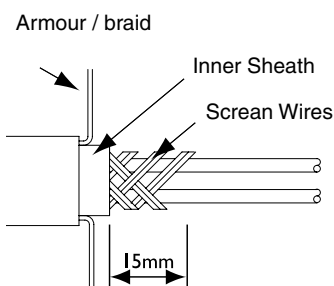

Fig. 1
- 2.2. Remove a further 15mm of inner sheath (See Fig. 1).